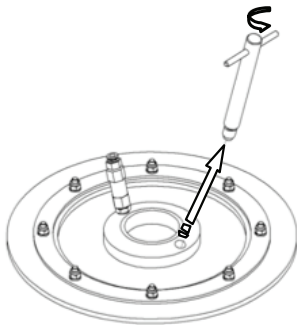

Fig. 5
- Unscrew and remove the follower bleed rod from the plate, but keep it close by (Fig. 5).